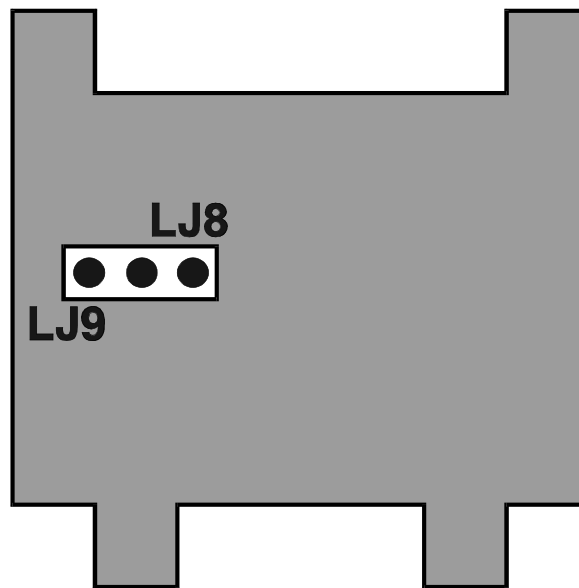

Figure 3-7 DC Output Option PCB (Output 2/Output 3)
The type of output for Output 2 and Output 3 is determined by the Option PCB fitted in the appropriate position (see Figure 3-1) and, in the case of the DC Output Option PCB being fitted, the setting of Link Jumpers LJ8 and LJ9 on that Option PCB (see Figure 3-7 and Table 3-3). There are three types of option PCB which may be used for Output 2 and Output 3:
3. DC Output Option PCB (link jumpers as shown in Figure 3-7)